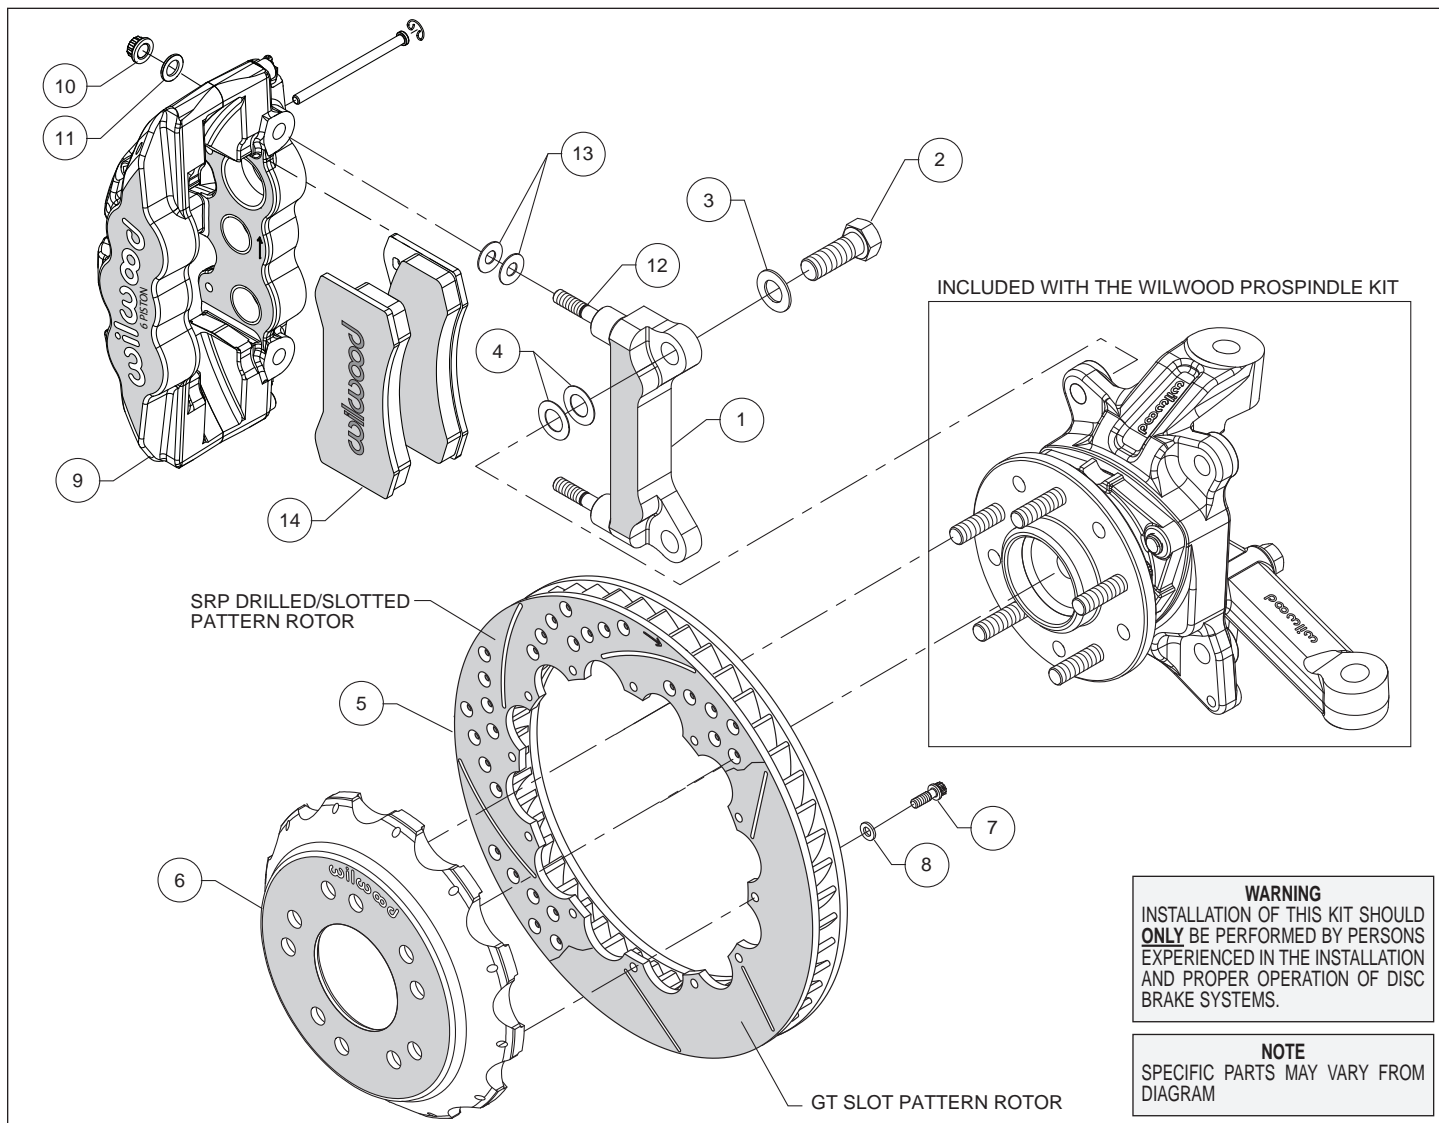
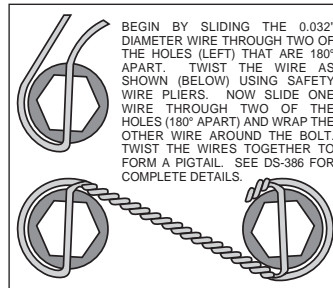

Figure 1. Typical Installation Configuration
Figure 3. Safety Wire Diagram
Assembly Instructions (numbers in parenthesis refer to the parts list and Figure 1 on the preceding pages):
• The caliper mount bracket (1) should initially be installed with clean, dry threads on the mounting bolts. Orient the bracket as shown in Figure 1 and Photo 1 and install using mount bolts (2) and washers (3). Initially place two .024" thick shims (4) on each bolt between the bracket and spindle, Figure 1. Temporarily tighten the mounting bolts. **NOTE:** The bracket must fit squarely against the mounting points on the spindle. Inspect for interference from casting irregularities, machining ridges, burrs, etc. Later, after the caliper alignment has been checked, the mount bolts will be secured using red Loctite® 271.
- Orient the rotor (5) and the hat (6) as shown in Figure 1 and Photo 2. Attach rotor to hat using bolts (7) and washers (8). Using an alternating sequence, apply red *Loctite*® 271 to the threads, and torque to 155 in-lbs. For an added measure of security, the bolts may be safety wired using standard 0.032 inch diameter stainless steel safety wire as shown in Figure 3. Please refer to Wilwood's data sheet DS-386 (available at www.wilwood.com/Pdf/DataSheets/ds386.pdf) for complete safety wire installation instructions.
- NOTE:** This kit contains distinct right and left hand calipers that must be mounted in a specific direction, as described below. Lubricate the caliper mounting studs (12) with lightweight oil. Initially place two .030" thick shims (13) on each stud between the caliper and the bracket, as shown in Figure 1 and Photo 5. Mount the caliper (9) onto the bracket (1) using lock nuts (10) and washers (11), Figure 1. Ensure that the caliper is mounted so the largest pistons are at the rotor exit end of the caliper, in relation to the direction of rotor rotation. Temporarily tighten the lock nuts and view the rotor through the top opening of the caliper. The rotor should be centered in the caliper, Photo 6. If not, adjust by adding or subtracting shims (4) between the bracket and the spindle. Always use the same amount of shims on each of the two mounting bolts. Once the caliper alignment is correct, remove the bracket mounting bolts one at a time, apply red *Loctite*® 271 to the threads, and torque to 140 ft-lb.
- Remove the two pad retaining pins from the caliper (9) by carefully popping out the pin retaining clips and sliding out the pins. Insert the brake pads (14) into the caliper from the bottom, Figure 1, Photo 7. With the friction material facing the rotor, secure the brake pads in place with the pad retaining pins and clips, Photo 8. Reinstall the caliper onto the caliper mounting bracket and temporarily tighten the lock nuts. Check that the top of the brake pad is flush with the outside diameter of the rotor, Photo 9. If not, adjust by adding or subtracting shims (13) between the caliper and the bracket. After the caliper pad height is set, torque the caliper lock nuts (10) to 47 ft-lb.